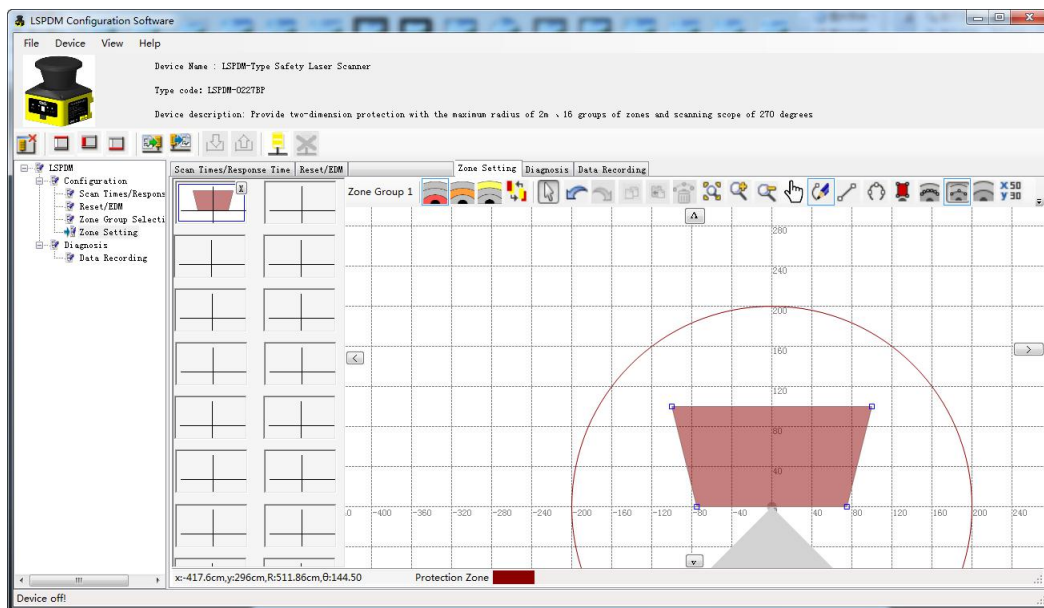

Fig.3.2.2 Draw protective area
Step①: Protective zone configuration. For example, Fig.3.2.2 shows the user-defined irregular protective zone boundary.